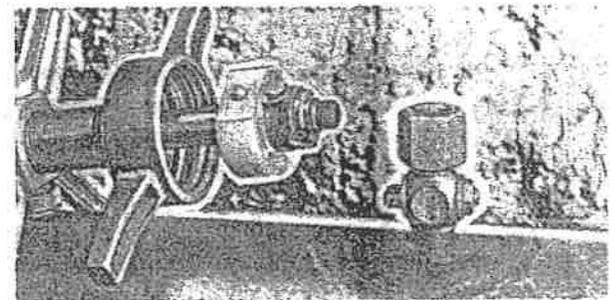

FIGURE 22
5. When using an extracting tool having inside threads, screw the nut into the outside threads of stop or tee very securely using the right hand thread. **FIGURE 22.** When using an extracting tool having outside threads, screw the plug into the inside threads of stop or plug very securely using the right hand threads.
11. Attach the shank part of the extracting tool into the boring bar socket being sure the knockout pin is in its outward position and the drive pins align with slots in the boring bar. See **FIGURE 22.**